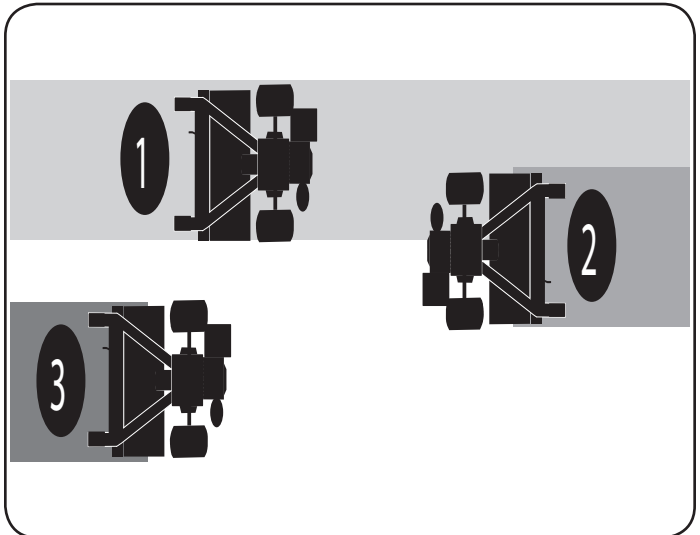

Figure 19
- If the garden size will not permit lengthwise and then crosswise tilling, then overlap the first passes by one-half a tiller width, followed by successive passes at one-quarter width. See Figure 19.